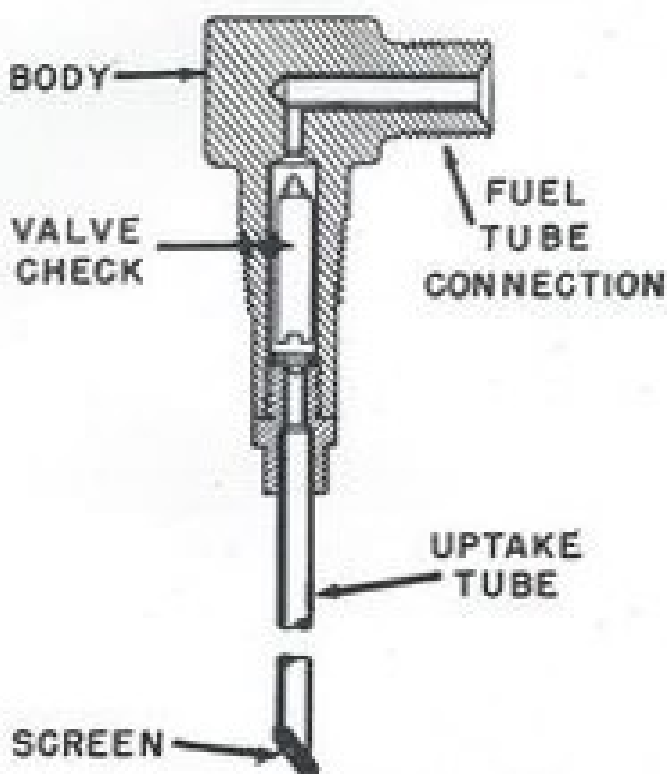

Figure 14. Fuel output valve and uptake tube.
(3) Look through the holes in the valve body and remove any dirt present by use of soft wire or wood cleaner.
(4) See that seats upon which the tube ends rest are smooth and clean and that the threads on the valve body are in good condition.
(5) Replace the packing gland in the valve body when it will not prevent leakage after the packing gland has been tightened. The packing gland may be removed from the body of the valve by carefully inserting the blade of a screw driver into the holes through which the valve stem passes and then turning the screw driver in a counterclockwise direction. Do not force the screw driver into the packing any farther than is necessary, as doing so may damage the packing.
(6) Assemble the valve carefully in reverse order of disassembly.
a. **GENERAL.** The fuel output valve and the uptake tube (fig. 14) are located on the top of the fuel tank just behind the fuel tank filler cap. The fuel output valve is a safety device placed in the fuel line to prevent fuel from flowing when the fuel tube becomes broken or loose. The fuel rushing through this valve causes the valve to close and it stays